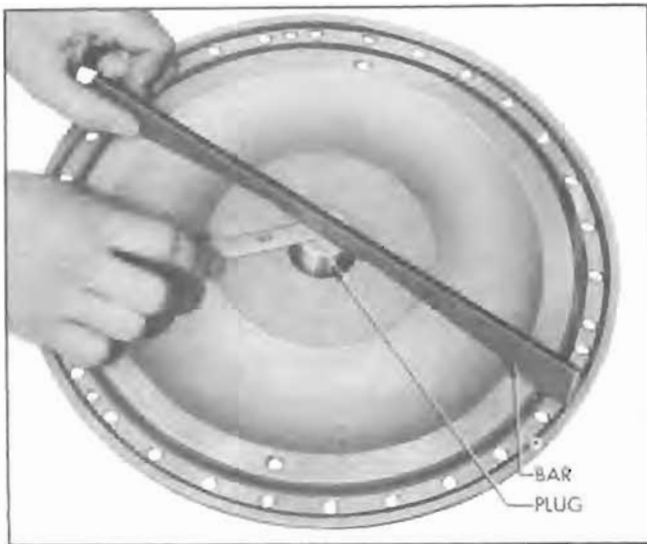

Figure 4-148—Checking Primary Pump Cover with Clearance Gauge
3. Support primary pump cover on suitable blocks. Install bearing plug of Converter Clearance Gauge J 3045 (for Series 40-44-50) or J 2596 (for Series 70) in ball bearing in pump cover. Place gauge bar across cover with ends resting on flat surface between bolt holes. See figure 4-148.